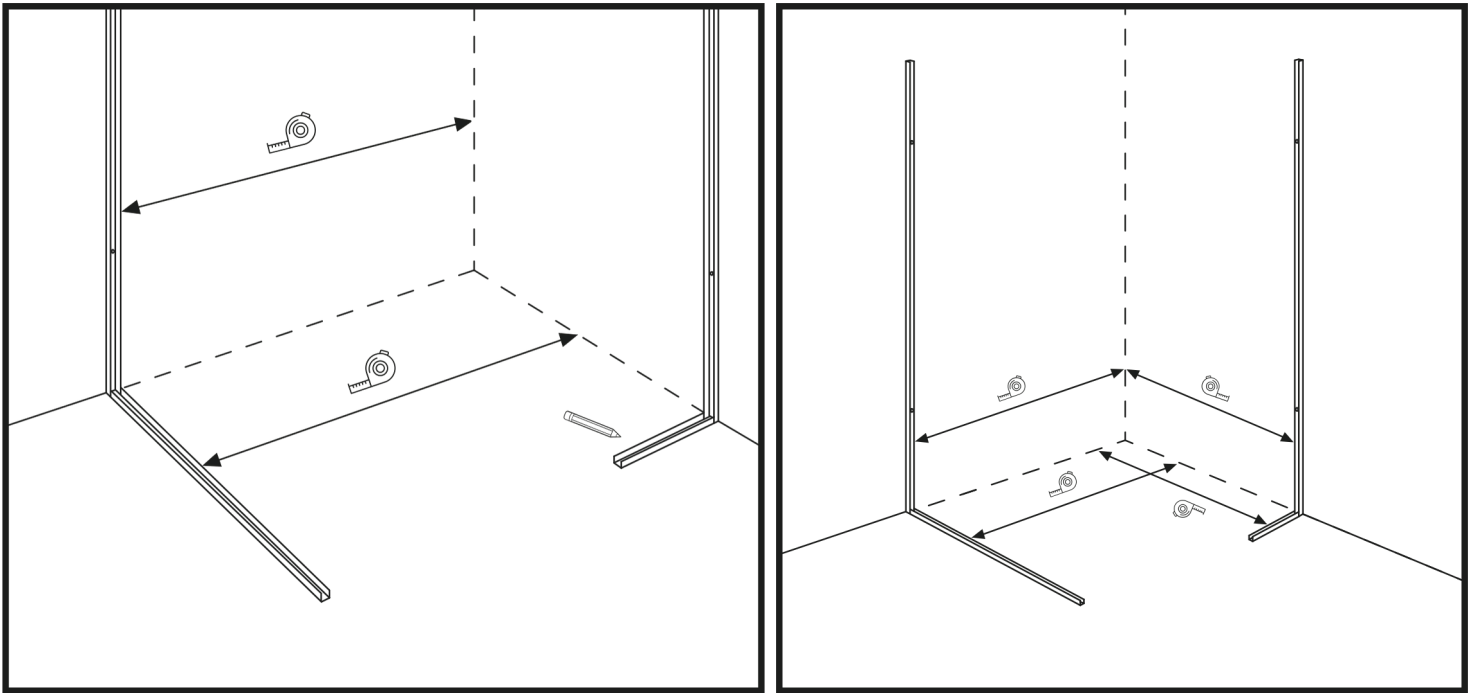

Figure 1
1. First install the fixed glass panels with the U-profile, i.e. the smaller part of the shower door and the wider part of the shower enclosure, together with the telescopic tubes. (Figure 1)